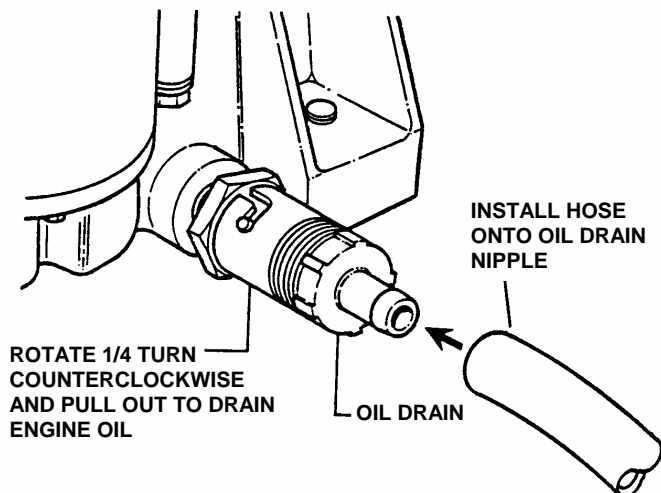

FIGURE 3.1
5. Rotate drain plug counter clockwise and pull out to open and allow oil to drain out. See Figure 3.1.
6. After all the oil has drained, close the drain by pushing in and rotating clockwise to close. Wipe up any oil that may have spilled. Dispose of drained oil properly. See Figure 3.1.